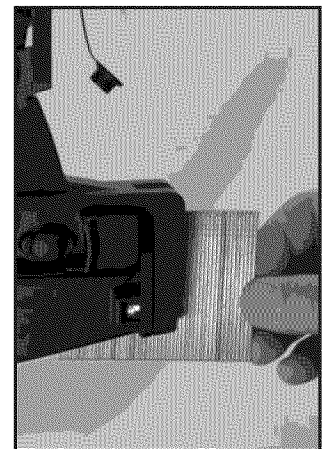

Figure 5—Insert Nail Strip
- Insert nail strip into slot located on the end of the magazine. (See Figure 5)